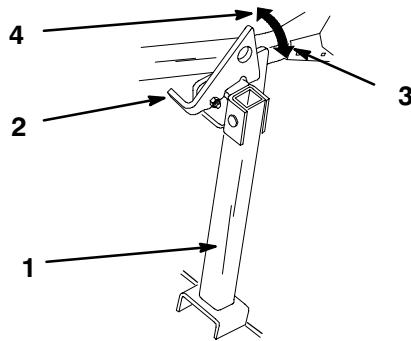

Figure 28
6. Drive onto stand. Stop when latch drops over tab into locked position (Fig. 28). Once onto stand, engage parking brake. Shut off engine.
2. Raise latch to unlocked position (Fig. 28).